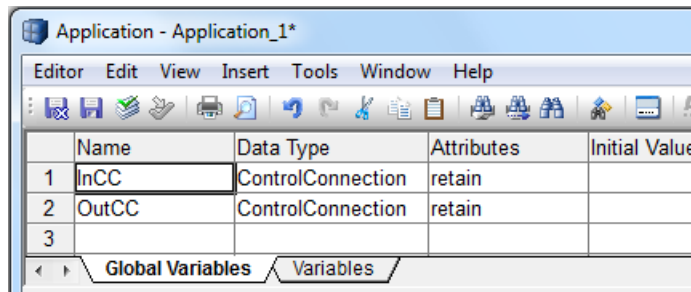

Figure 34. Global variables for connecting the CCTemplate object in the application
2. Declare the variables (InCC and OutCC of ControlConnection) using the graphical connections in the Application according to Figure 34.